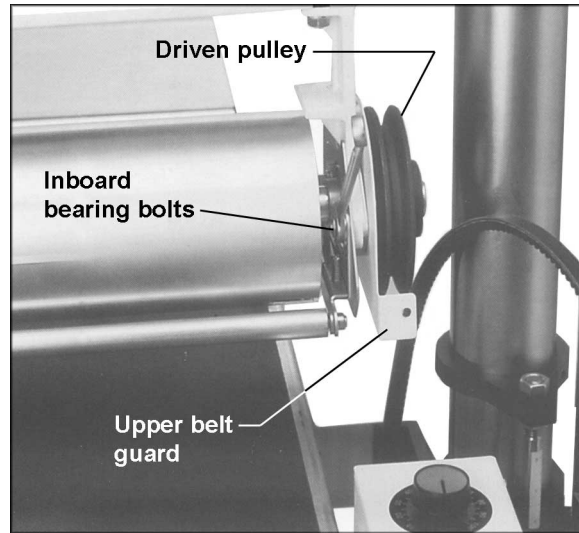

Figure 40
8. Remove the bolts holding the inboard (right) bearing in place. See Figure 40. Slide the inner half of the upper belt guard off the end of the shaft along with the bearing.
11. Install the driven pulley (shown in Figure 40) making sure it aligns with the drive pulley on the motor. Tighten the set screw.